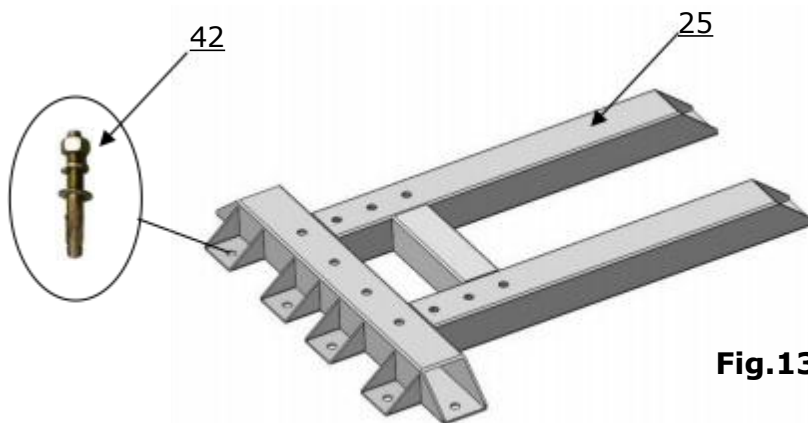

Fig.13
C. Confirm the installation position and place the base onto it. (See Fig.13)